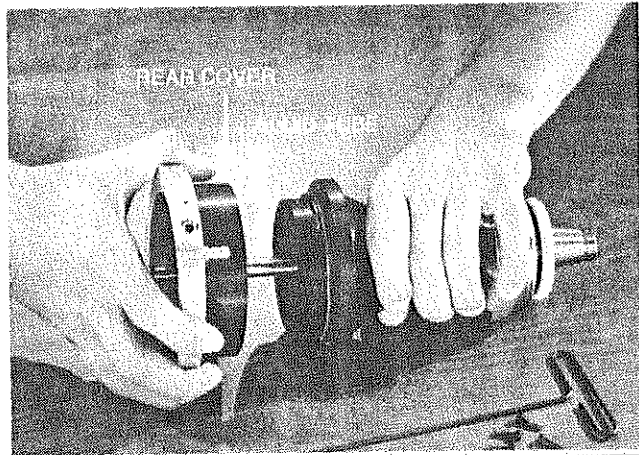

FIG. 8
3. Pull rear cover carefully away from turbine (Fig. 8).